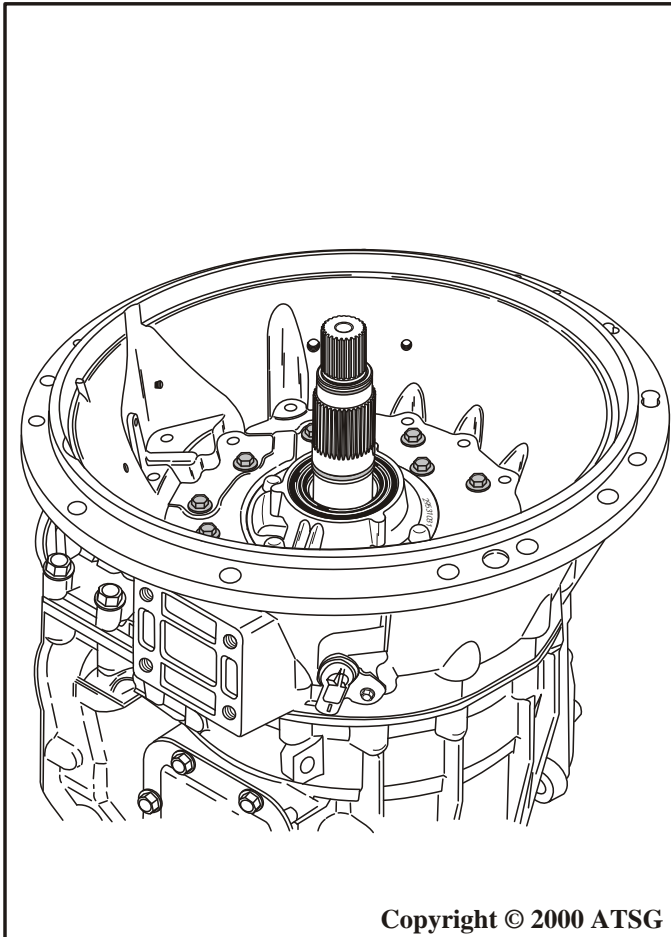

Figure 53
23. Rotate the transmission in the fixture so that the bell housing is facing up (See Figure 53).